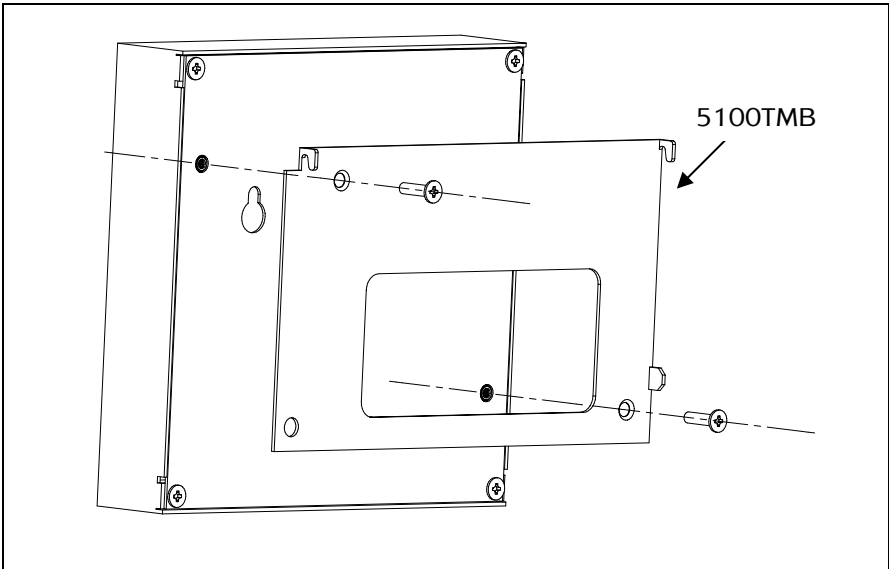

Figure 7 – Using a 5100TMB mounting bracket
- clipping into a Clipsal StarServe cabinet using an optional 5100TMB mounting bracket (shown in Figure 7).